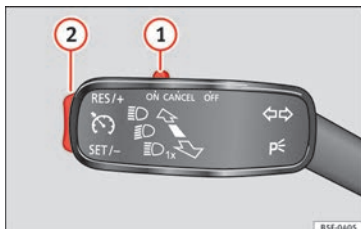

Fig. 41 Turn signal and main beam headlight lever: switches and controls for operating the CCS
- Switching on the CCS: Move switch »» **Fig. 41 1** to **ON**. The system is on. If no speed has been programmed, the system will not control it.
- Activating the CCS: Press button »» **Fig. 41 2** in the **SET/-** area. The current speed is memorised and controlled.
- Temporarily switching off the CCS: Move switch »» **Fig. 41 1** to **CANCEL** or push the brake. The cruise control system is switched off temporarily.
- Reactivating the CCS: Press button »» **Fig. 41 2** in **RES/+**. The memorised speed is saved and controlled again.
- Switching off the CCS: Move switch »» **Fig. 41 1** to **OFF**. The system is disconnected and the memorised speed is deleted.